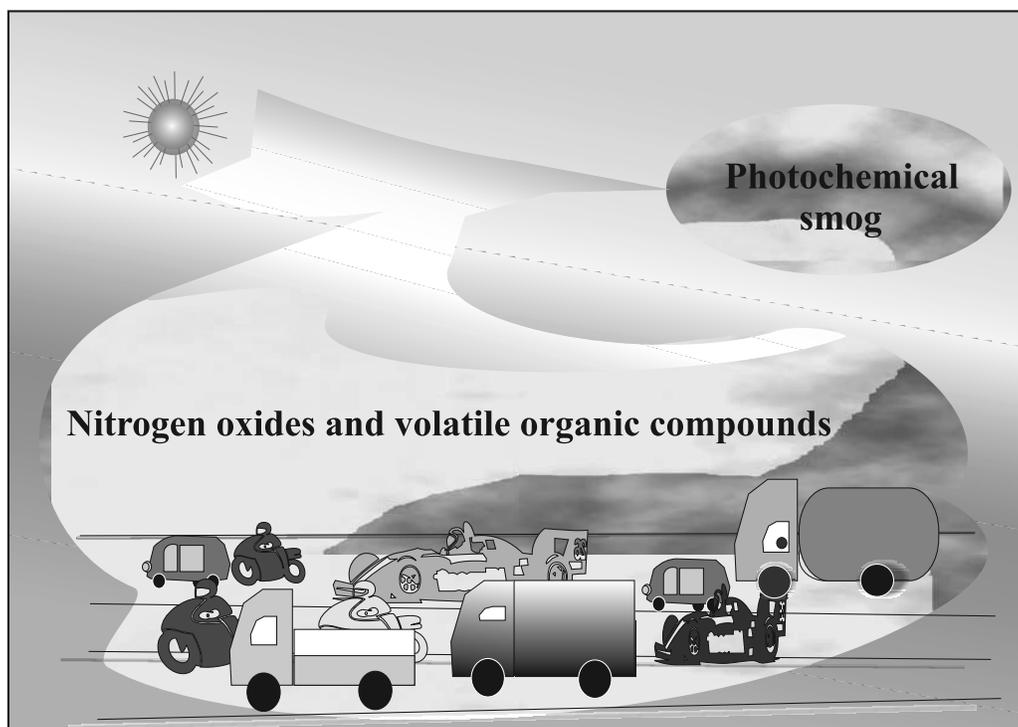

Fig. 14.2 Photochemical smog occurs where sunlight acts on vehicle pollutants.
troposphere. Two of the pollutants that are emitted are hydrocarbons (unburnt fuels) and nitric oxide (NO). When these pollutants build up to sufficiently high levels, a chain reaction occurs from their interaction with sunlight in which NO is converted into nitrogen dioxide (NO₂). This NO₂ in turn absorbs energy from sunlight and breaks up into nitric oxide and free oxygen atom (Fig. 14.2).